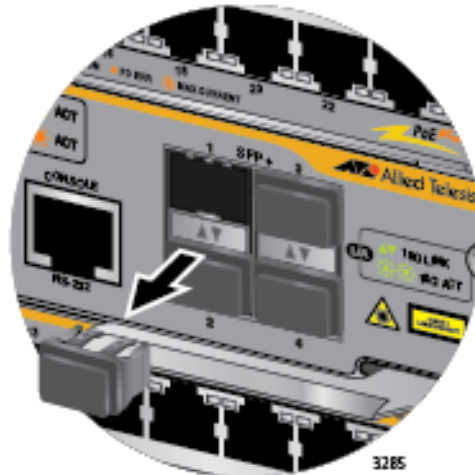

Figure 115. Removing a Dust Cover from an SFP+ Slot in the AT-SBx81CFC960 Controller Fabric Card
1. Remove the dust plug from the slot chosen for the SFP+ transceiver. Refer to Figure 115 on page 195.
1. Remove the dust plug from one of the SFP+ slots. You may install AT-SP10TW Cables in any of the SFP+ slots on the controller card. Refer to Figure 115 on page 195.